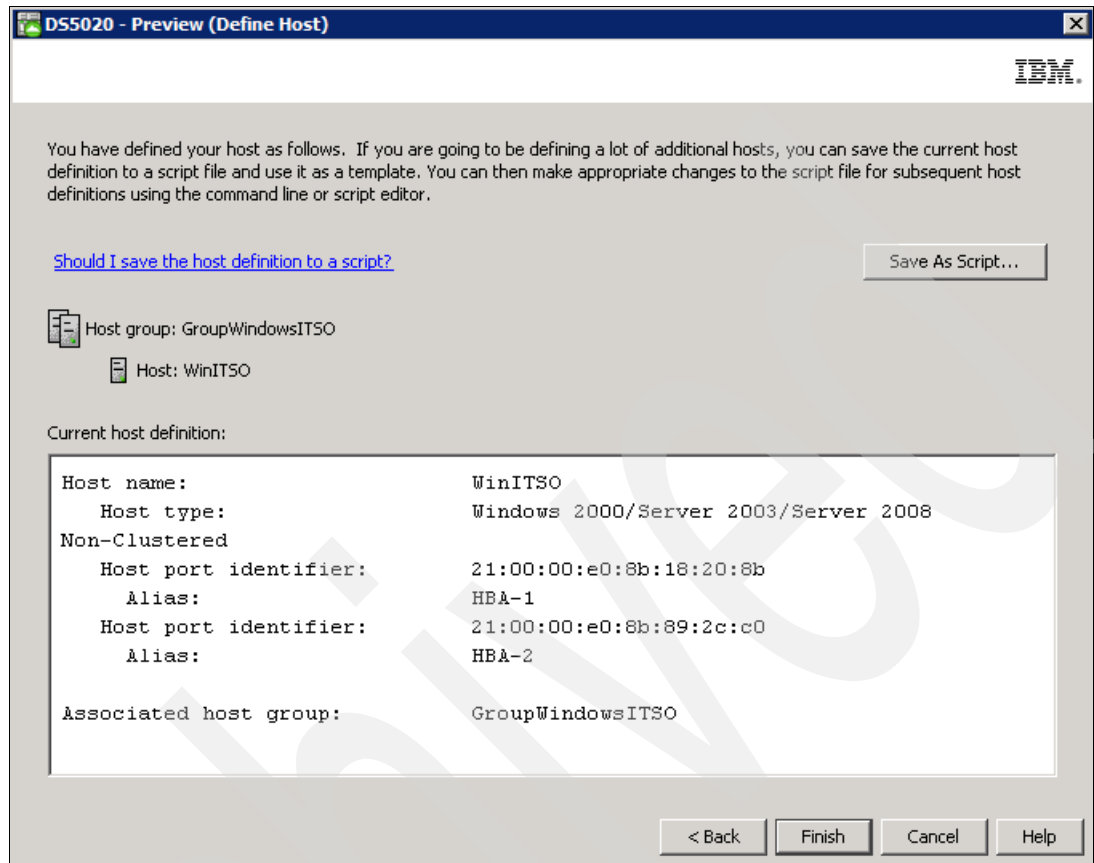

Figure 4-74 Define Host: Preview
9. Finally, you have the chance to preview the new host definition (Figure 4-74). If all the selections are correct, click **Finish** to define the new host.